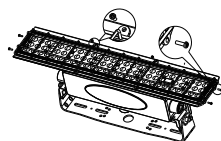

Figure 19
2. Before installing the fixture, put a wire guard on the fixture cover, as shown in (Figure 19).